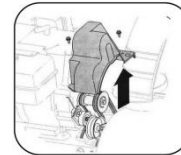

Figure 11
- NOTE:** Drain the gasoline from the snow thrower, or place of plastic under the gas cap. See Figure 11.